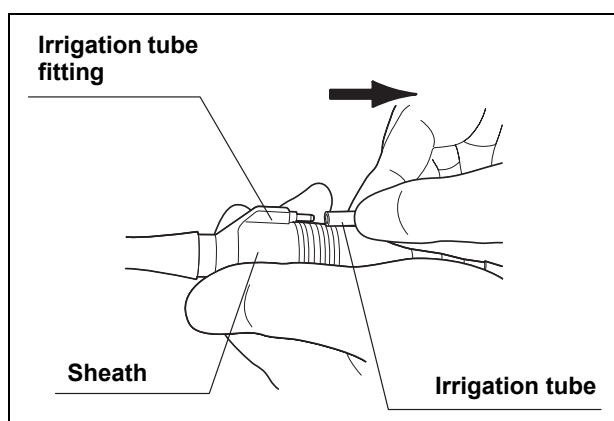

Figure 7.3
2. Disconnect the irrigation tube from the irrigation fitting of the sheath (see Figure 7.3).